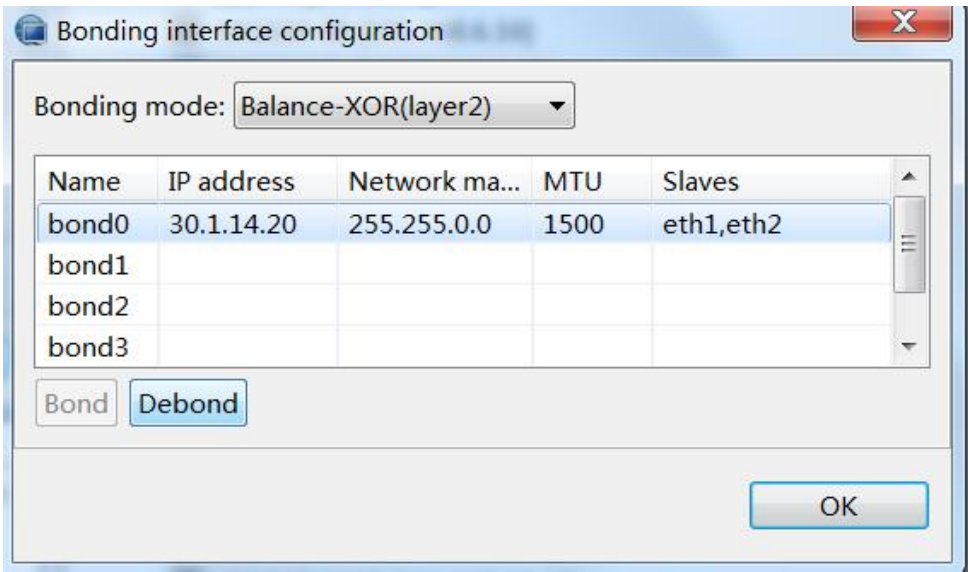

Figure 10-14 Checking bonding information 2
(6) To change the bonding IP, select the **[Server Maintenance > Network Configuration]** menu item, select the bond port name to be changed, click the **[Configure]** option and input a new bonding IP, as shown in the Figure10-14: